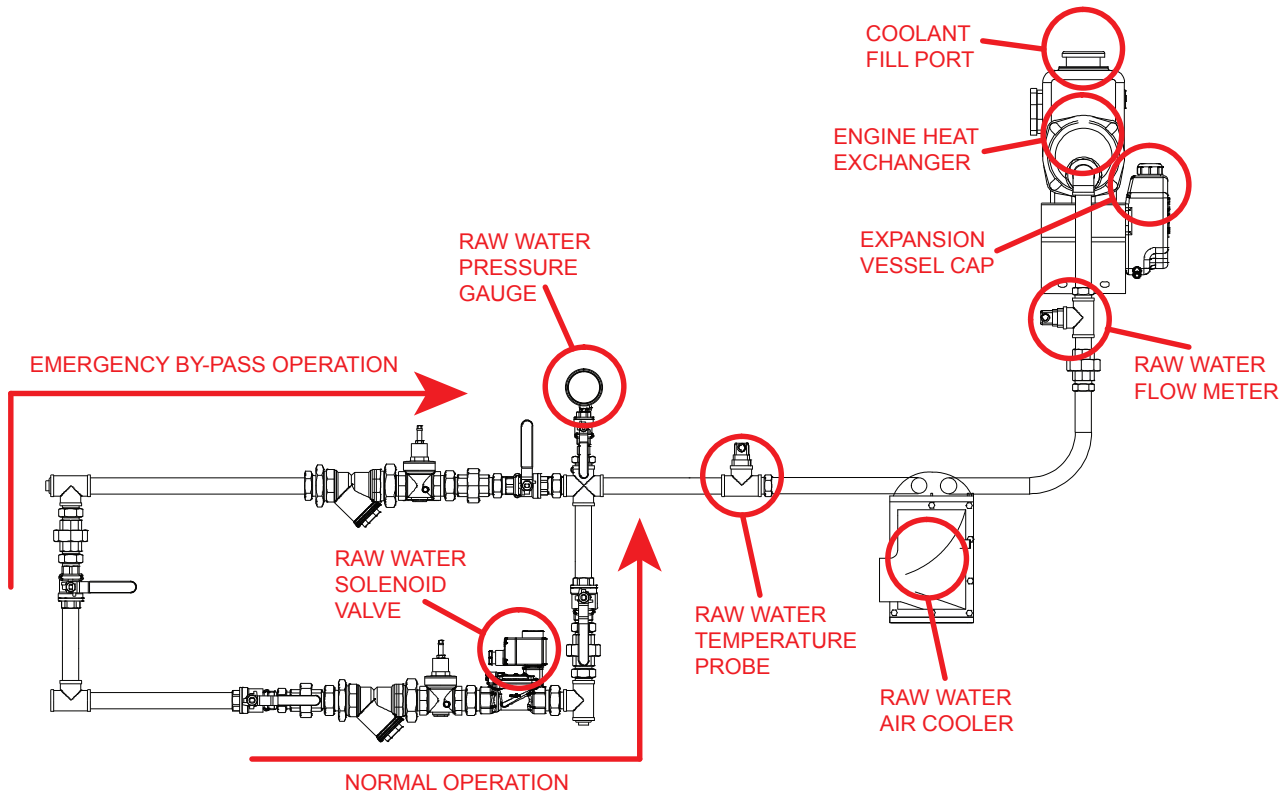

FIGURE 26 - EXTERNAL DIESEL ENGINE COOLING LOOP WITH AIR COOLER
- Remove the drain plug on the bottom of the diesel engine oil pan. See FIGURE 26.